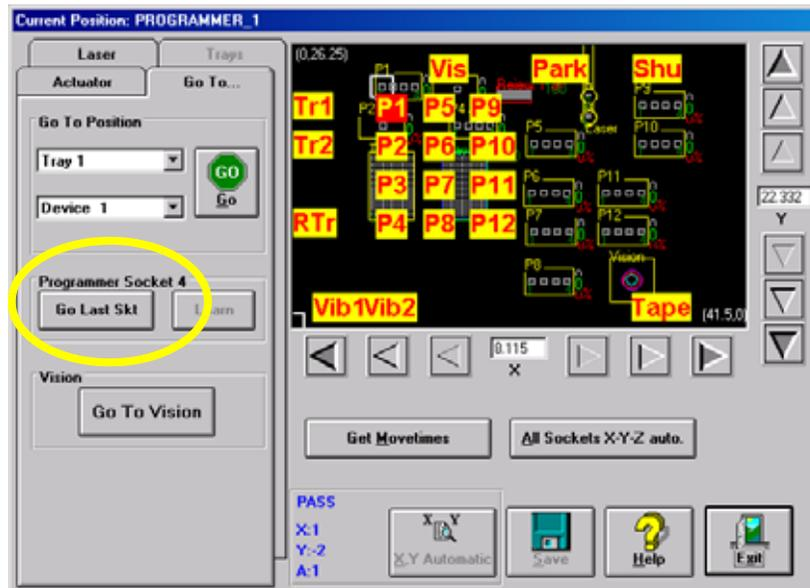

Figure 3-61—Go to Socket 4
- 7a) On the **Go to** tab, click **Go Last Skt**. See Figure 3-61.